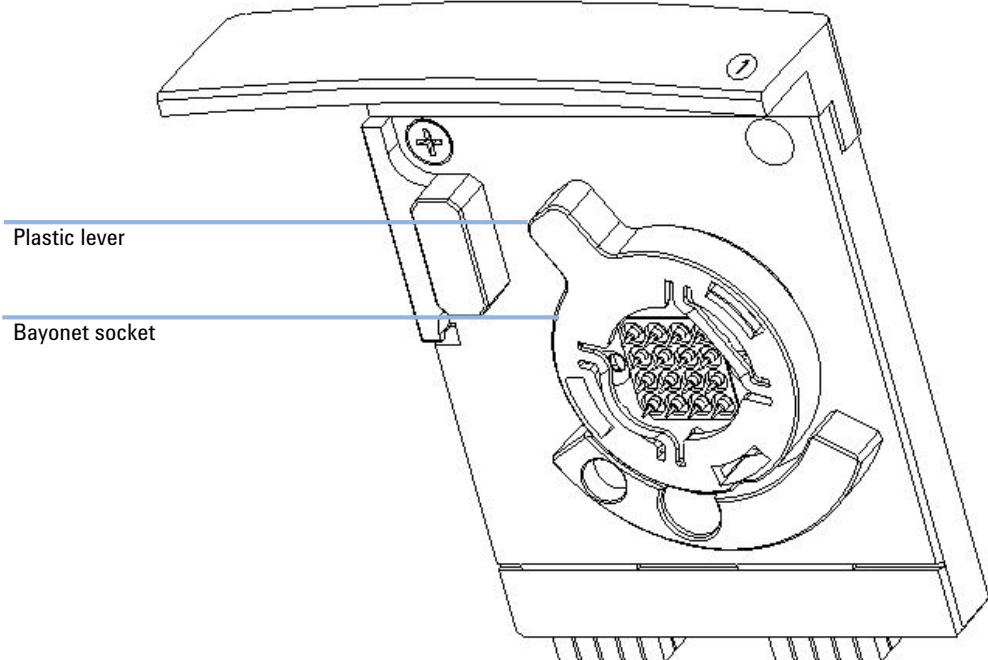

Figure 2 Bayonet socket of the electrode pin set
- 4 Open the bayonet socket of the pin set by turning the plastic lever to the left, see Figure 2 on page 128.
- 11 Lock the pin set to the electrode base by turning the plastic lever of the bayonet cover to the right, see Figure 2 on page 128.